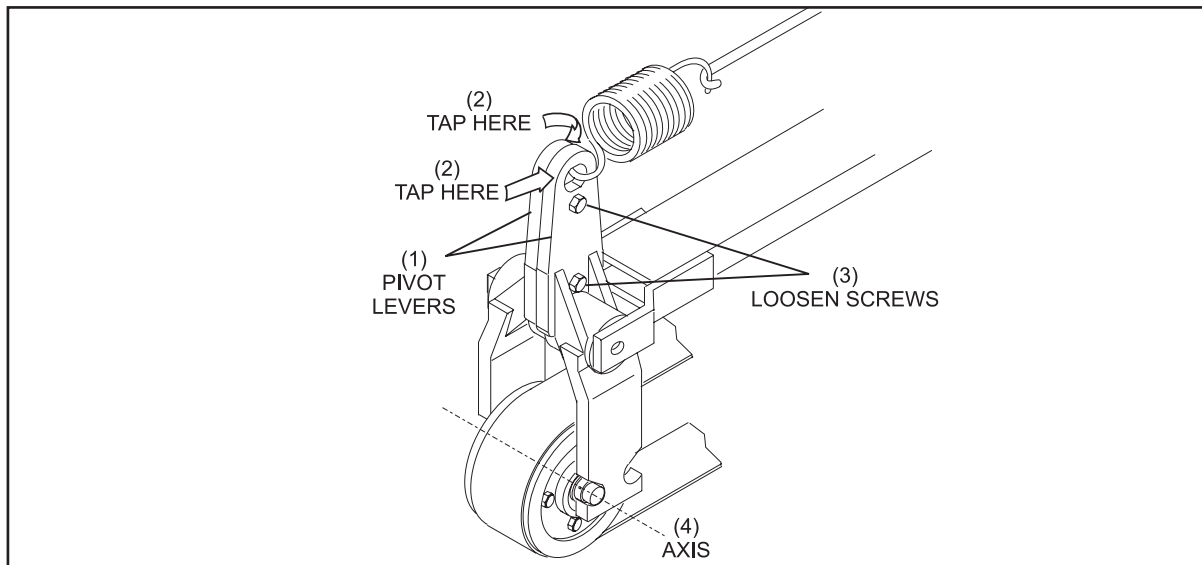

Figure 5-15. Loosen Hardware Securing Pivot Levers.
- a. Using a 17 mm socket, ratchet and wrench, loosen the two screws and nuts securing the pivot levers. ONLY loosen screws enough to allow slight adjustment of pivot levers. Refer to Figure 5-15.
- b. Rotate the belt by hand and observe belt tracking. Use light, short taps from a soft rubber mallet to reposition left and right pivot levers until belt is tracking on the center of pulley drum. Refer to Figure 5-15.